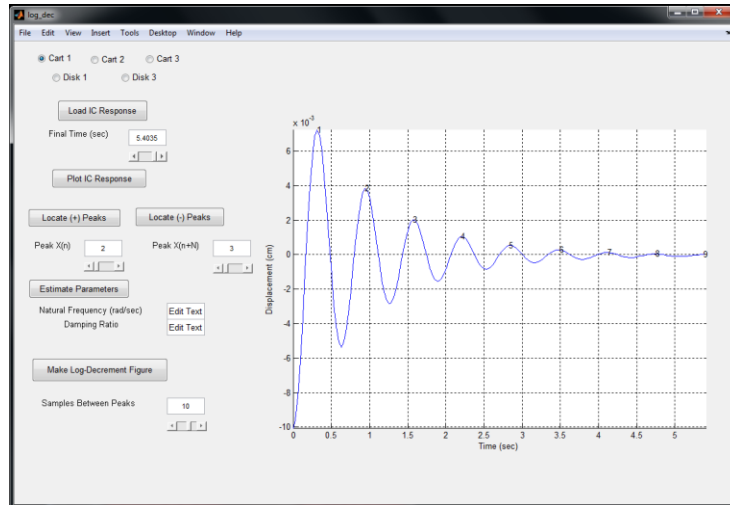

Figure 9: Locate positive peaks on the Log Decrement GUI Tool
13. Choose to identify the positive peaks (**Locate + Peaks**) or negative peaks (**Locate - Peaks**). If the peaks are not numbered consecutively, you need to decrease the **Samples Between Peaks** and try again until all peaks have been identified (see Figure 9).